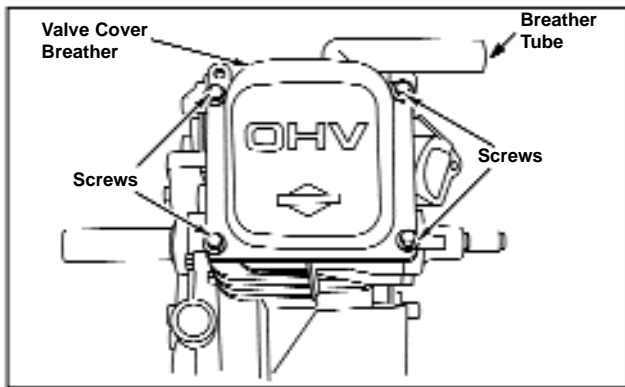

Figure 85 - Removing Valve Cover, Typical
- Remove valve cover and breather valve assembly. See Figure 85.